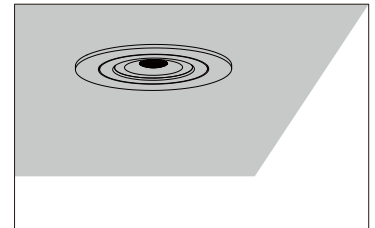

FIG. 6
5. Secure the downlight, the installation is completed. (Fig. 6)